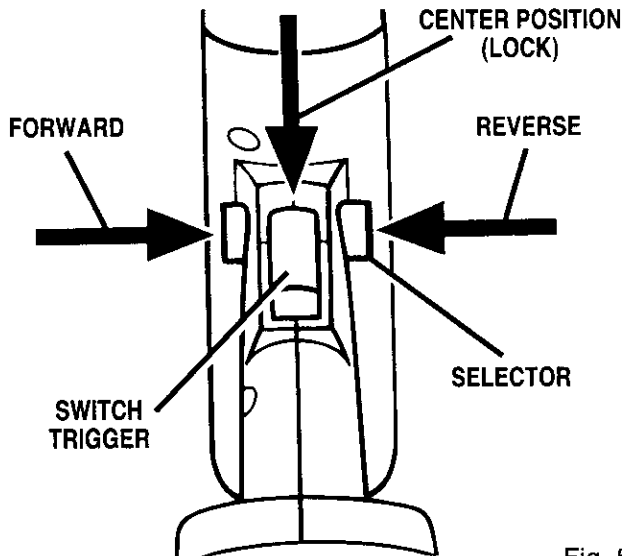

Fig. 5
- Lock switch trigger on your drill by placing the direction of rotation selector in center position. See Figure 5.
See Figure 5.
- Lock the switch trigger by placing the direction of rotation selector in center position. See Figure 5.